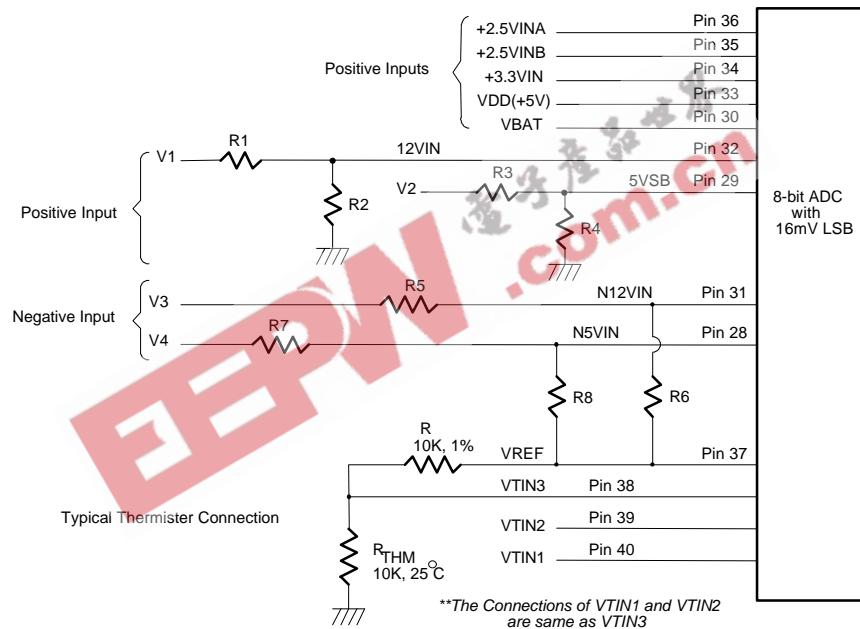

Figure 11.
The maximum input voltage of the analog pin is 4.096V because the 8-bit ADC has a 16mV LSB. Really, the application of the PC monitoring would most often be connected to power suppliers. The CPU V-core voltage ,+3.3V and battery voltage can directly connected to these analog inputs. The 5VSB and +12V inputs should be reduced a factor with external resistors so as to obtain the input range. As Figure 11 shows.
The negative voltage should be connected two series resistors and a positive voltage VREF (is equal to 3.6V). In the Figure 11, the voltage V3 and V4 are two negative voltage which they are -12V and -5V respectively. The voltage V3 is connected to two serial resistors then is connected to another terminal VREF which is positive voltage. So as that the voltage node N12VIN can be obtain a posedge voltage if the scales of the two serial resistors are carefully selected. It is recommended from Winbond that the scale of two serial resistors are R5=232K ohms and R6=56K ohm. The input voltage of node -12VIN can be calculated by following equation.
The W83782D can connect three thermistors to measure three different environment temperature. The specification of thermistor should be considered to (1)  $\beta$  value is 3435K, (2) resistor value is 10K ohms at 25°C. In the Figure 11, the thermistor is connected by a serial resistor with 10K Ohms, then connect to VREF (Pin 37).